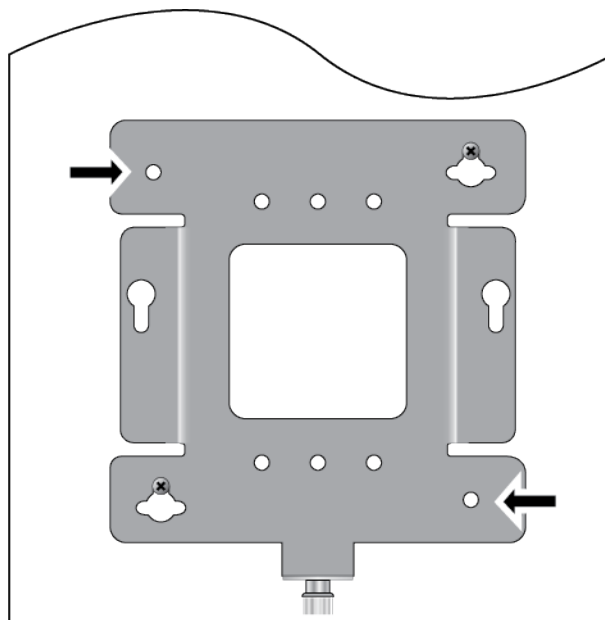

Figure 19. Pre-Drill Holes on Mounting Bracket
8. To secure the mounting bracket, pre-drill holes through the two bracket mounting holes opposite the key-hole slots. See Figure 19.